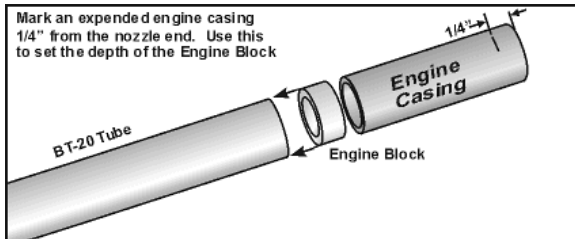

Figure 1
1. Make a mark on an expended motor casing  $\frac{1}{4}$ " from one end. Apply a bead of glue about 1" inside one end of a **BT-20 Body Tube** and use the motor casing to push an **Engine Block** into the end of the tube up to the mark made on the motor casing. As shown in **Figure 1**. **REMOVE THE CASING QUICKLY** so that it does not become glued into the tube. Repeat this step with the remaining two tubes and Engine Blocks.